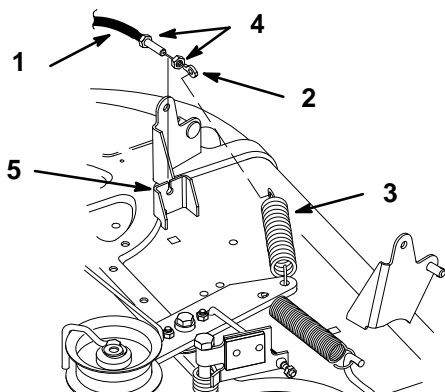

Figure 38
6. Unhook the blade control (PTO) cable ring end from the idler spring (Fig. 38).
7. Remove jam nut from blade control (PTO) cable at mounting bracket. Slide the cable from the bracket (Fig. 38).